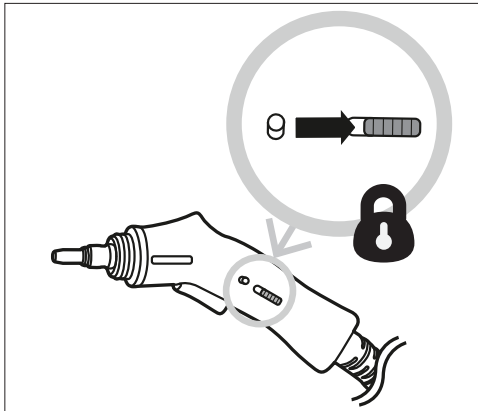

Fig. 6
1. Slide the safety lock (9) backward and the side button (8) will pop out. The child lock is activated (Fig. 6).